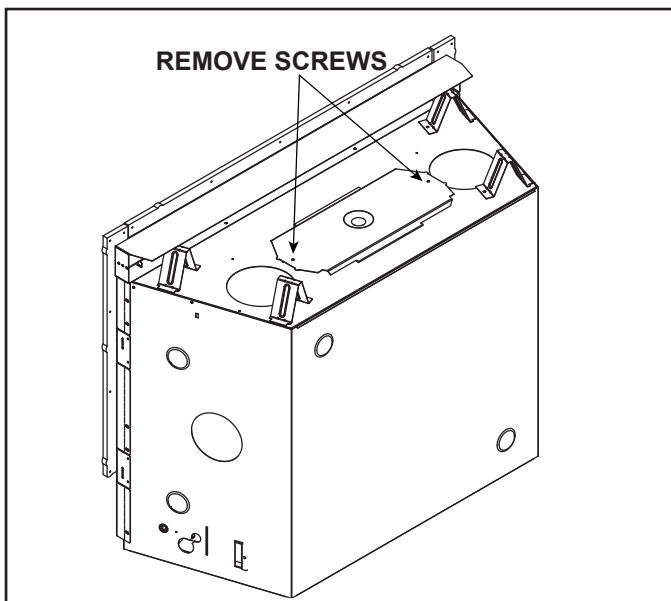

Figure 6.1 Shipping Position
1. Remove two screws and discard. See Figure 6.1.